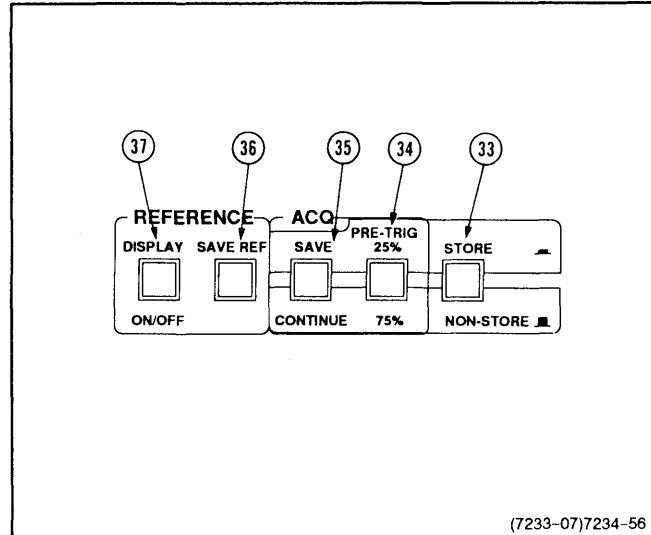

Figure 2-7. Storage controls.
See Figure 2-7 for locations of items 33 through 37, and Figure 2-4 for location of item 38.